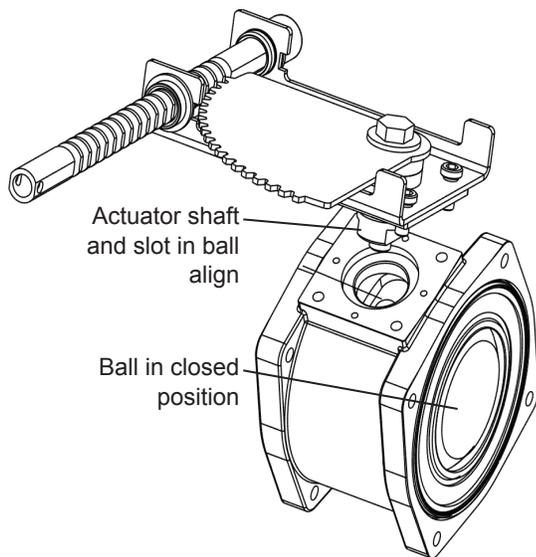
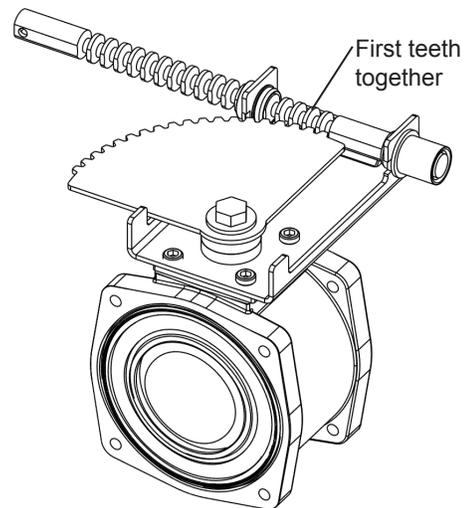

Figure 6
Figure 7
1. Hold the actuator assembly above valve body assembly and align the actuator shaft with the slot in the ball as shown in Figure 6. Ensure that the first tooth of the rack and the first tooth of the sector are aligned properly (see Figure 7) or the valve will not shut completely. Note that the rack and sector actuator assembly can rotate in 90° increments for different orientations of the actuator assembly.